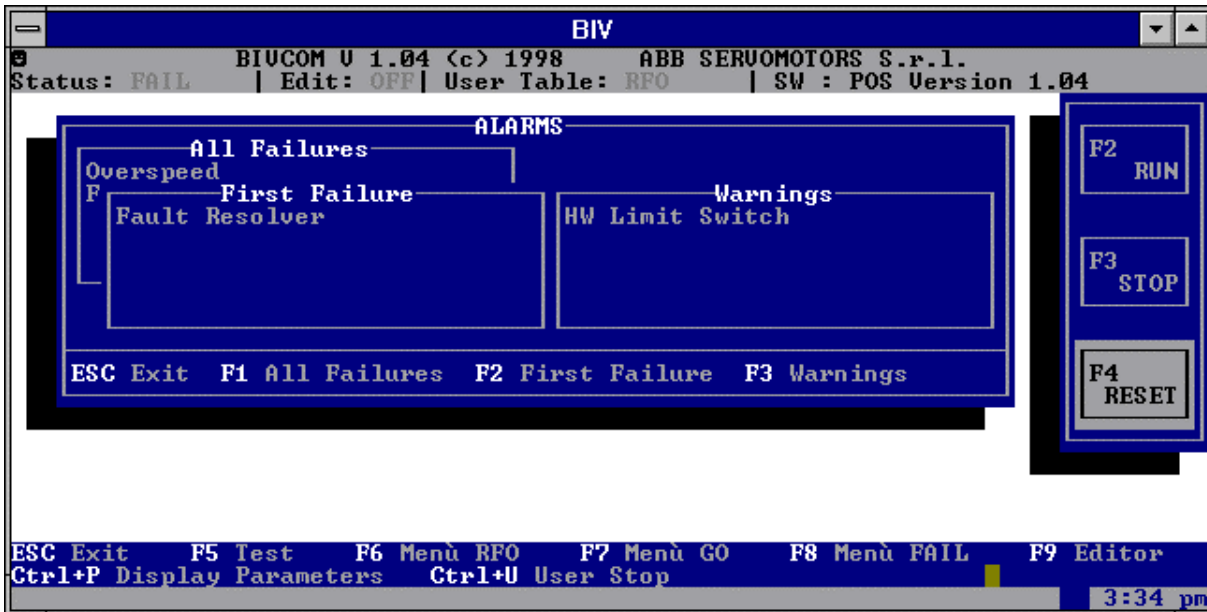

Fig. 7-6: FAIL Menu
- area C (see Fig. 7-6) displays: "Alarms" window; within this window, you can select the following displays: